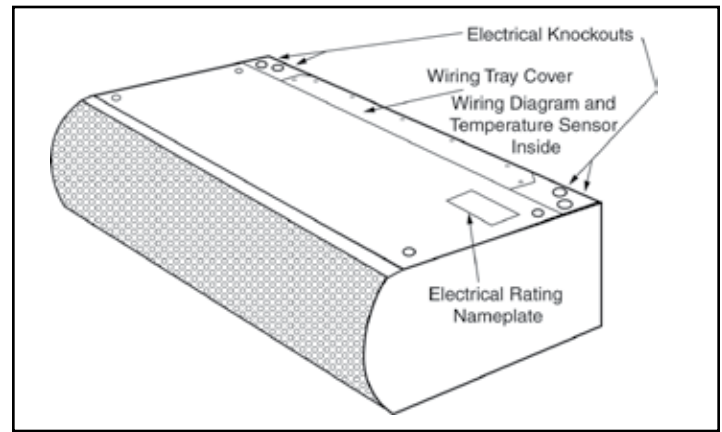

FIGURE 7 - Electrical Connections
that are comprised of modules, remove the wiring tray cover that is located closest to the electrical rating nameplate. Remove the required knockouts and attach the necessary electrical hardware. **Save the wiring diagram found inside of the wiring tray. See Figure 7.**
- D. The top of the air curtain is provided with two knockouts on each side allowing for a left or right hand power connection. Remove the wiring tray cover; on air curtains that are comprised of modules, remove the wiring tray cover that is located closest to the electrical rating nameplate. Remove the required knockouts and attach the necessary electrical hardware. Save the wiring diagram found inside of the wiring tray. See Figure 7.
- A. Check the rating nameplate on the top of the air curtain for supply voltage and current requirements. **See Figure 7.** A separate line voltage supply with a suitable branch circuit protection device should be run directly from the main electrical panel to the air curtain. A disconnect switch for each branch circuit is a required part of this installation.